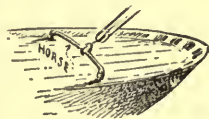

FIG. 2.
2. In fore-and-aft rig, an iron bar or rail, running athwart a deck, or the stern of a boat, upon which a sheet-tackle travels. (*See* fig. 2.) Many yachts, and even open boats, are fitted with a horse for the main sheet block; and in fishing craft we often find one forward of the mast upon which the foresail travels, obviating the necessity for fore-sheets. In this latter case the leech of the foresail carries a pendant (hanging rope) by means of which the sail, when it has travelled over the horse, is held fast to the shrouds. A foresail thus manipulated is called a "working foresail."